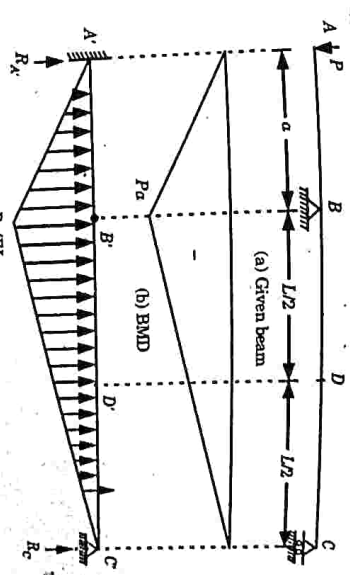

Fig. 19.
1. From Fig. 19(c),  $\sum F_y = 0$ .